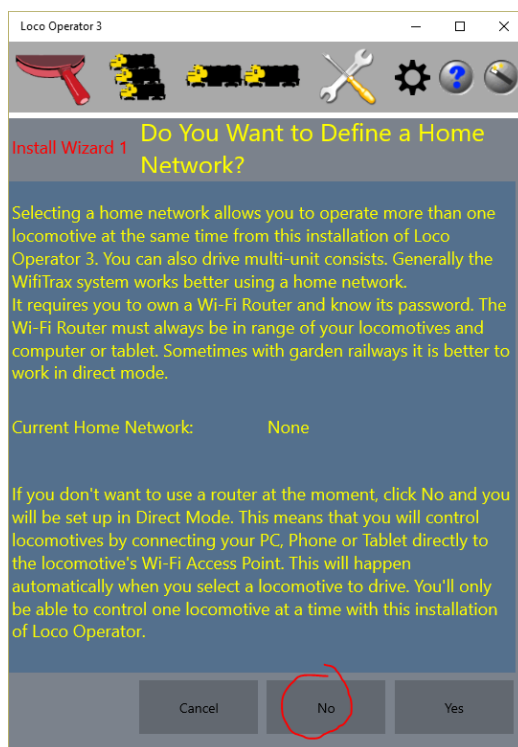

Figure 36 Install Wizard Page 1
- (1) Power up your WDMI-27 module and NCE system with a locomotive on the track with a known DCC address.
- (2) Start the Loco Operator App on your computer, tablet or phone. If you are starting the app for the first time the Install Wizard will automatically run and you will see a screen called Install Wizard 1 as in Figure 36. This screen asks whether you want to define a Home Network. Click No to this option for now. You can come back to this screen later.